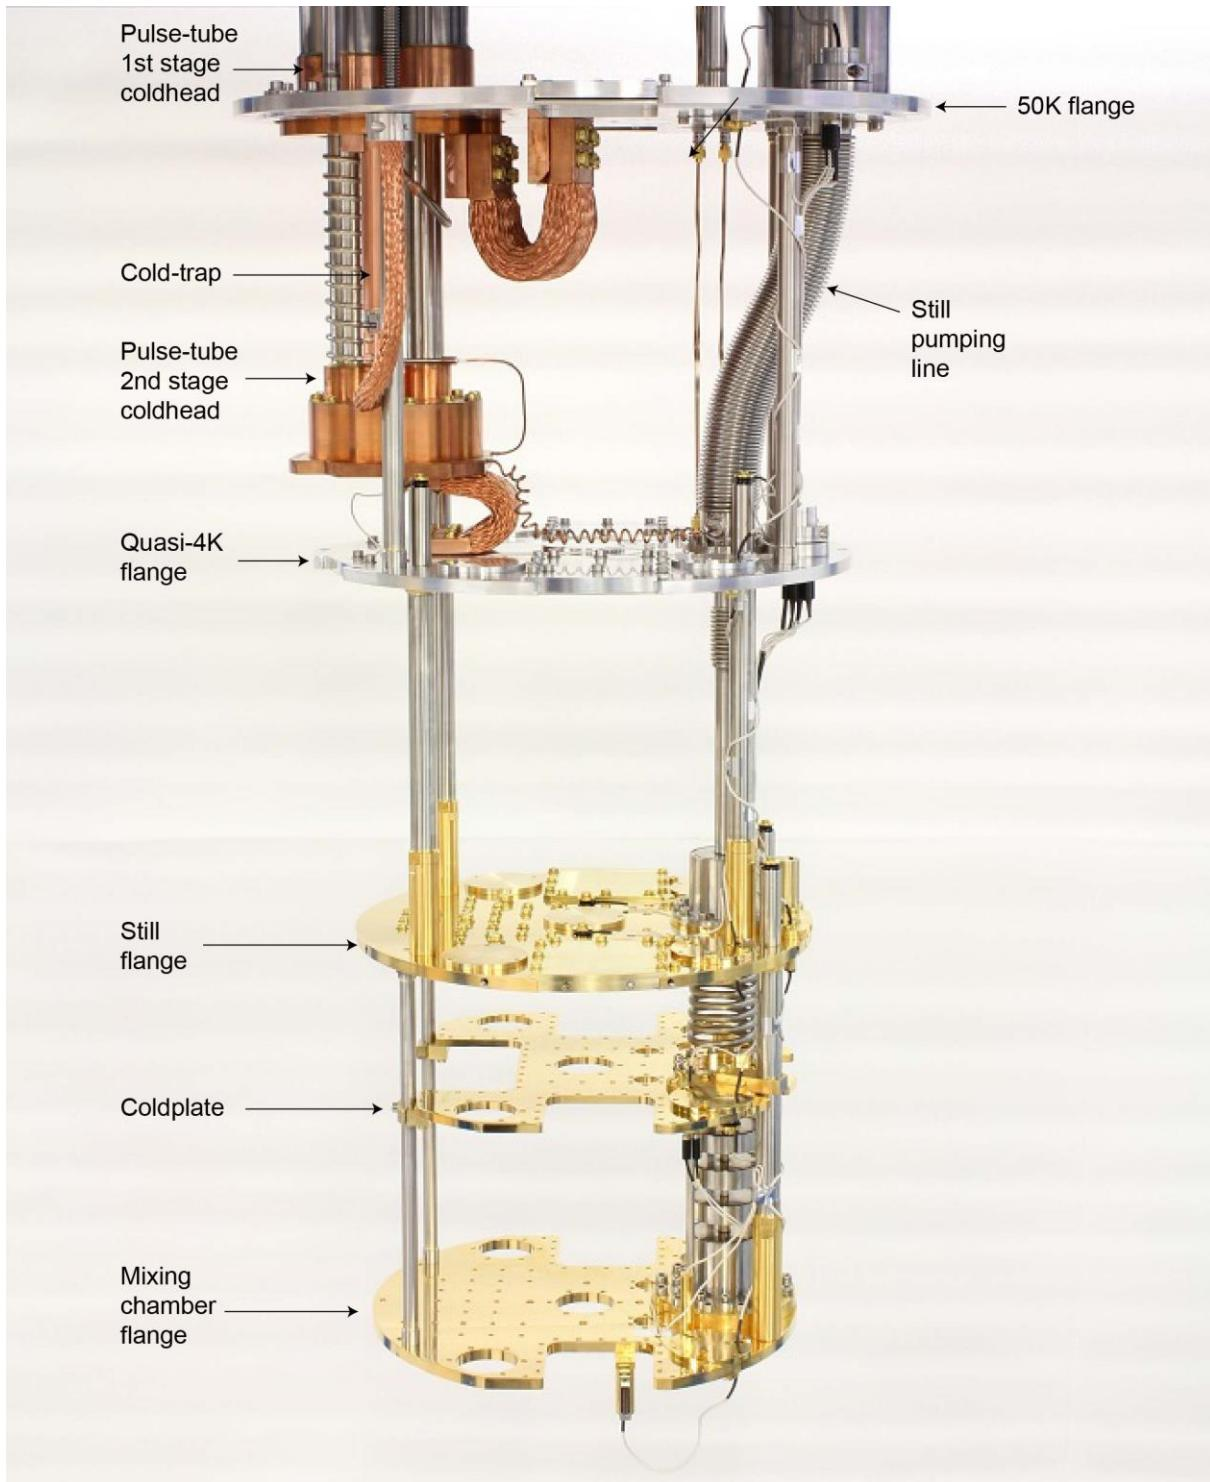

Figure 14. Cryostat insert layout.
The cryostat is connected to GHS-cabinet by three lines: the sill pumping line, the Helium-3 return line and the Vacuum Can (VC) pumping line. All of these lines have electric isolators in them to separate the cryostat from the GHS. Therefore the cryostat should be connected to (a clean) ground after system installation. Figure 14 shows the main parts of the cryostat insert.